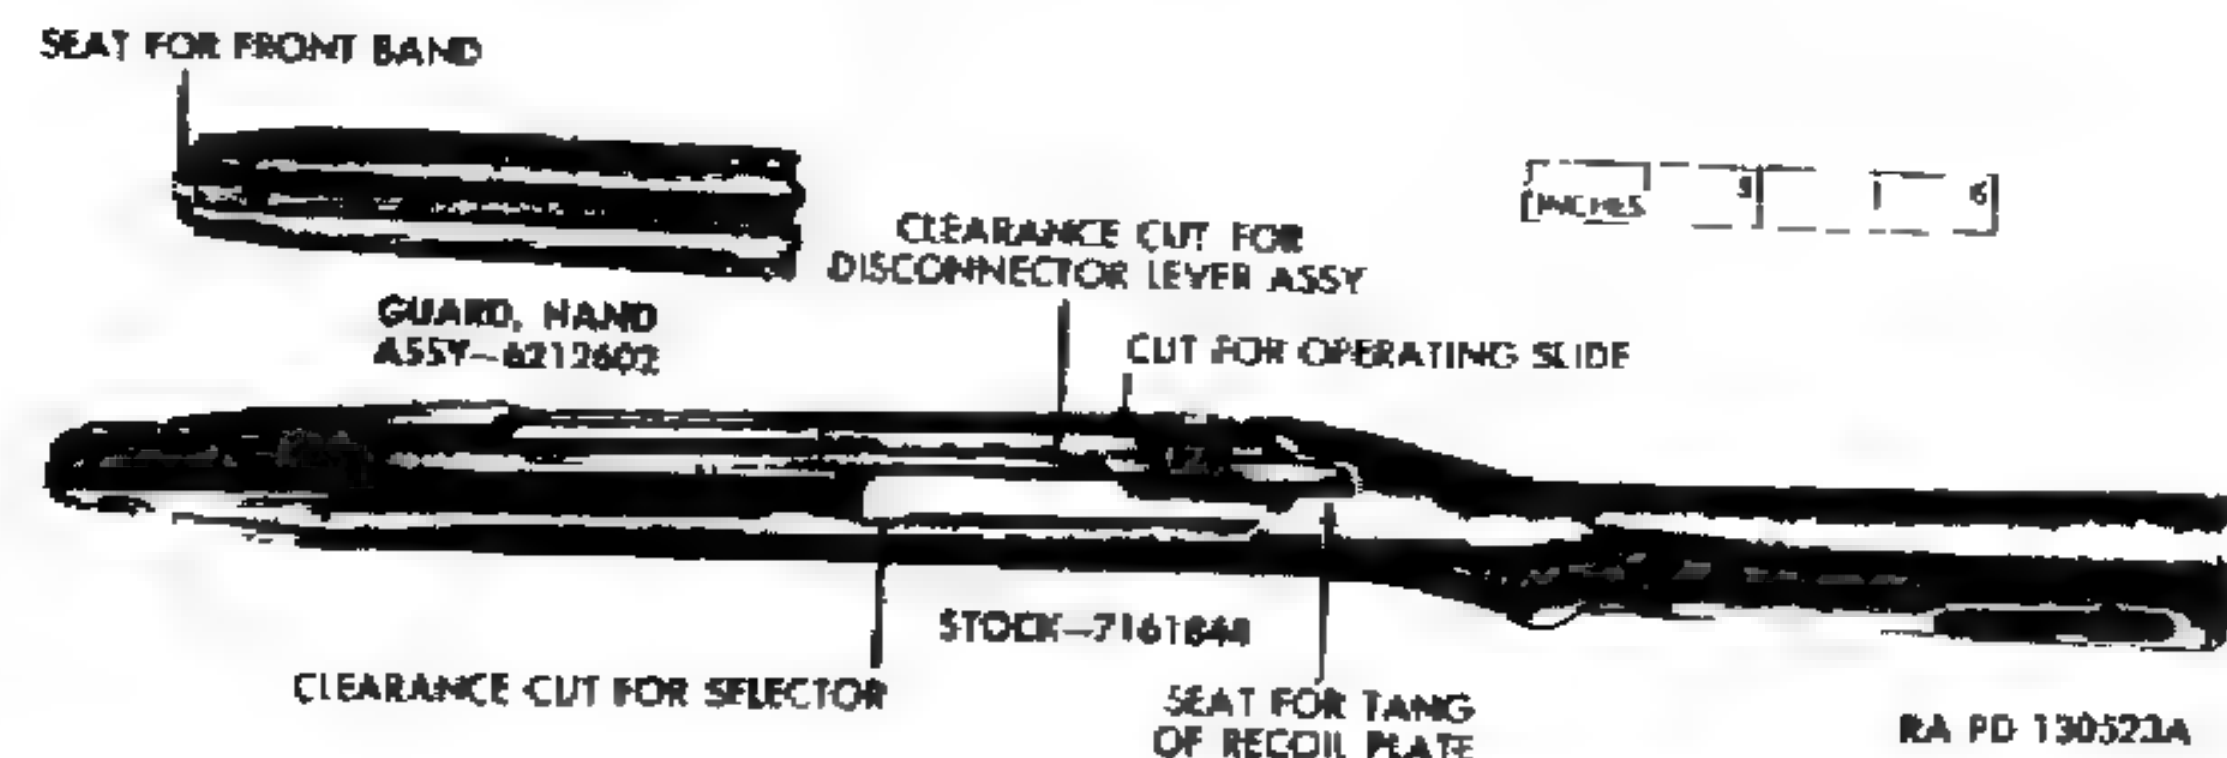

Figure 98. Stock and hand guard—carbines M1 (late), M2, and M3.
d. *Clearance Cuts.* Although the same stock is used on carbines M2, M3, and late model M1, for the M2 and M3 examine clearance cut on right for disconnecter and disconnecter lever, and clearance cut on left side for selector (fig. 98). There must be no binding of either due to undersized cuts.
- (d) Recess in bed of stock in which operating slide functions (figs. 98 and 107).
- (f) On the carbines M2 and M3 the left-hand side of stock where selector is located and the right-hand side of stock where disconnect lever assembly is located (fig. 98).